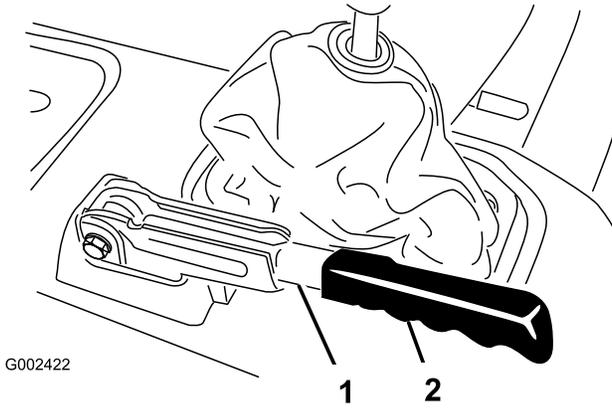

Figure 67
1. Remove the rubber grip from the parking brake lever (Figure 67).